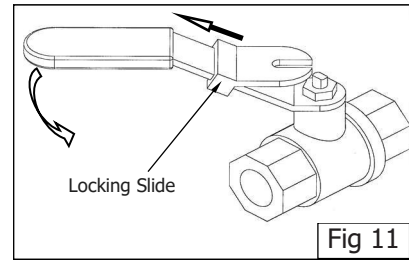

Fig 11
- b. While holding locking slide in the withdrawn position, rotate handle anticlockwise (Fig 11) to open valve.